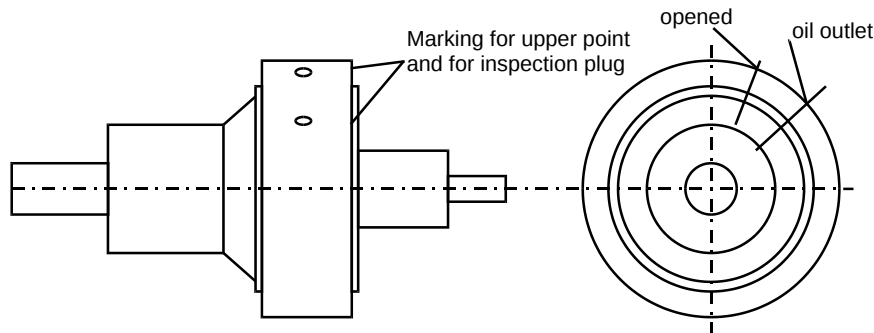

Figure 2
On the CYCLO DRIVE centrifuge reducer pin ring, there are both two (2) inspection screws at 180° to each other and two (2) markings (X). Turn the reducer until the separate marking (X) is at the top (see Figure 2). To fill the reducer, open the two screws at the top. Fill with lubricating oil through the top opening until lubricating oil comes out of the second opening. Once the reducer has been successfully filled, the inspection screws must be screwed in again tightly with new oil seals (see parts list).
To check the oil level, turn the reducer until the separate marking (X) is at the top (see Figure 2).